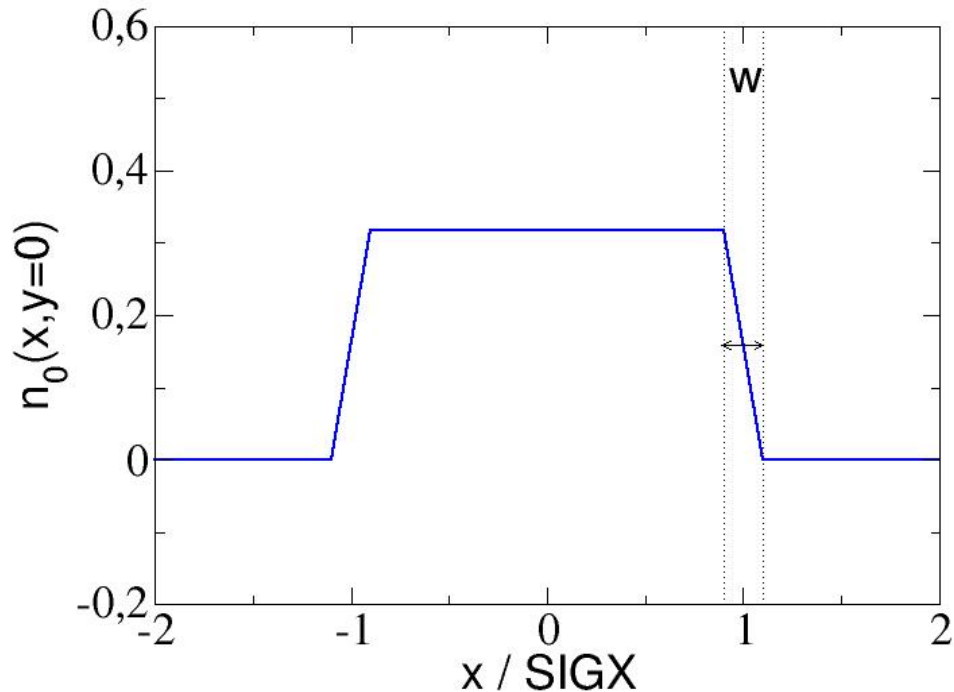

Figure 10.2: Trapezoidal shape of radial density for beam-beam lens.
- **BBSHAPE=2**: trapezoidal shape (see fig.10.2). **SIGX**, **SIGY** are the half widths of density profile, *i.e.* distance from the centre to half edge region with linear decrease of density in horizontal and vertical directions. Only circular opposite beam is possible, *i.e.* in the calculations  $SIGX' = SIGY' = (SIGX + SIGY) / 2$  is used, if **SIGX** and **SIGY** have different values. **WIDTH** denotes the full width of the edge region in units of **SIGX** (or **SIGX'** and **SIGY'**, respectively, if **SIGX** and **SIGY** are not equal), *i.e.* if  $WIDTH = 0.01$  and  $SIGX = 5\text{mm}$ , the edge region has a full width of 0.05 mm. Condition:  $WIDTH < 2.0$ .